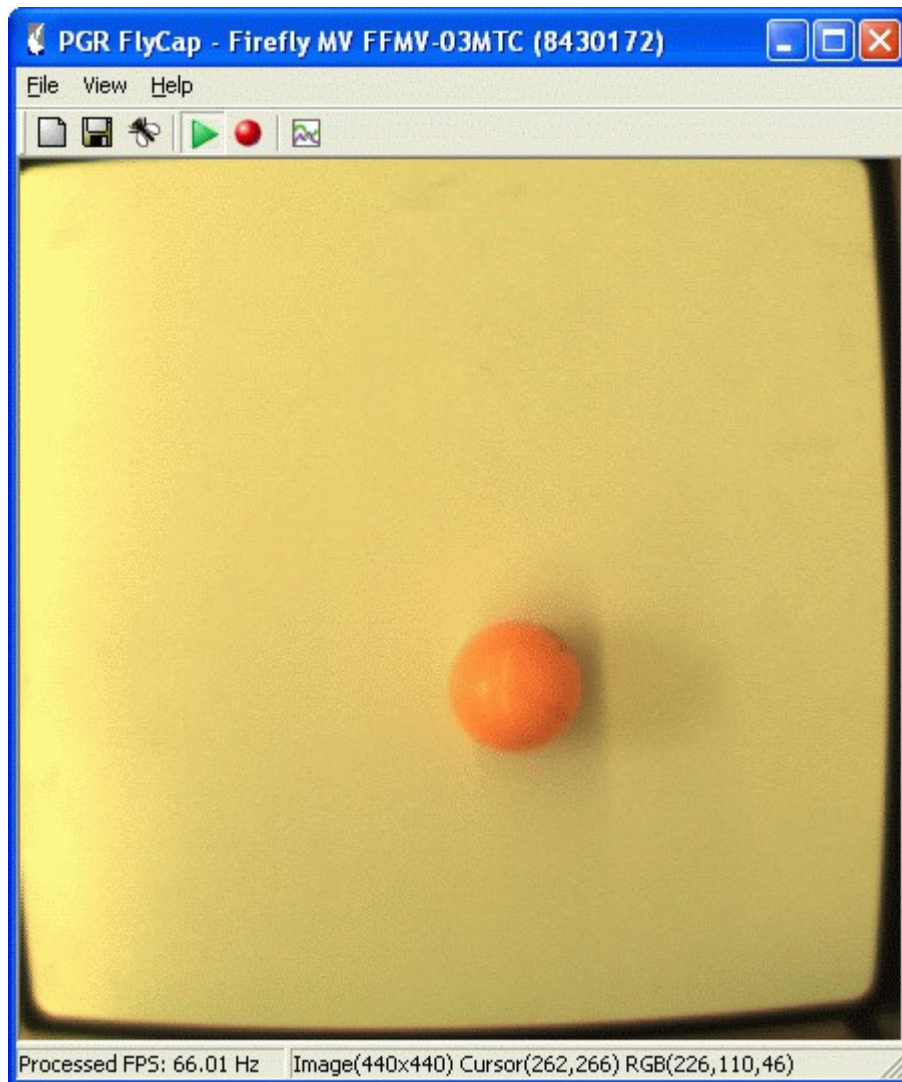

Figure 14: View after adjusting the Left offset. Only the plate is now viewed in the FlyCap software.
12. Tune the *Left* offset such that the plate fits inside the view of the camera. In this case, by increasing the *Left* parameter from 56 to 100 pixels we obtain the image shown in Figure 14.
15. **RGB Values:** In the FlyCap software, bring the mouse cursor over the ball and record the RGB values measured in the bottom right corner of the status toolbar, as shown in Figure 14, above. The RGB values are needed for the image detection algorithm when running the controller.